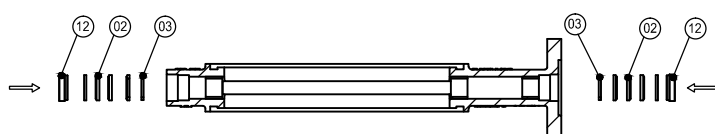
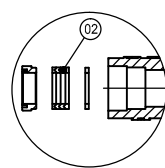

Figure 3
Figure 4
(2) As shown in Figure 3, into the upper and lower shaft holes, are placed by washer, packing, packing gla Note that the order of packing groups is shown in Figure 4